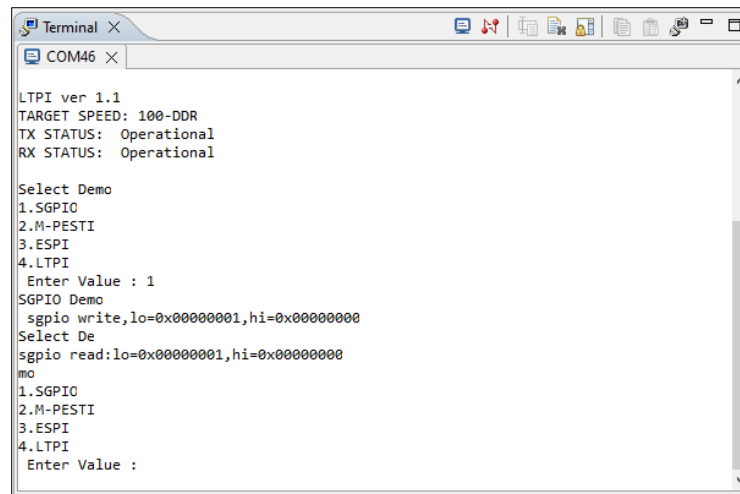

Figure 6.19. UART SGPIO Demonstration Selection
- Make the following selection for the SGPIO demonstration, as shown in Figure 6.19.